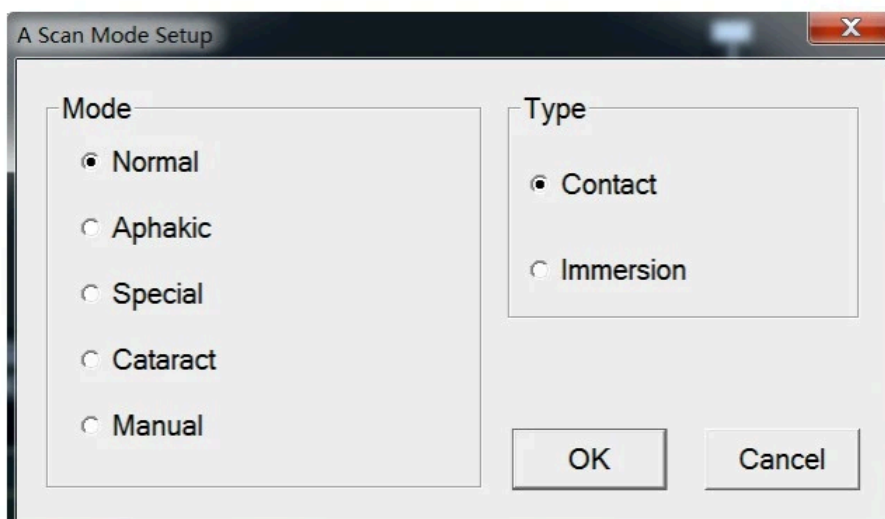

Figure 4-5-2 A-Scan Mode Setup Interface
Click **Mode** to access “A-Scan Mode Setup” interface (shown in Figure 4-5-2).
3. Click **Mode** to access “A-Scan Mode Setup” interface (shown in Figure 4-5-2);
Click **Mode** in the A scan interface, to access the A scan Mode Setup interface shown in Figure 4-5-2; and select "Manual" mode.